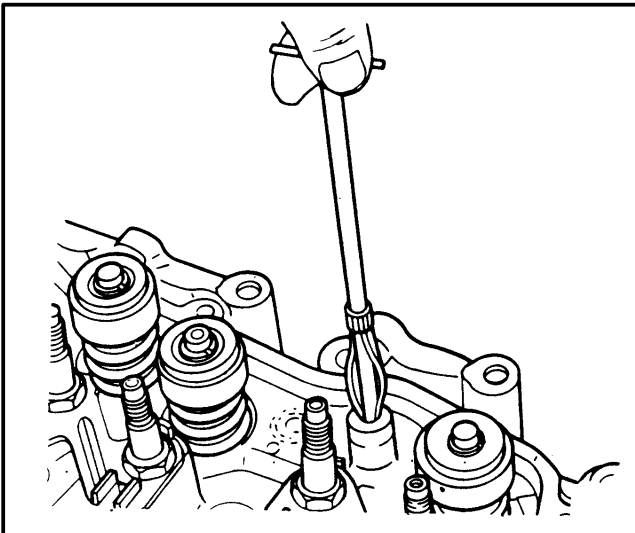

FIGURE 4. TOOL FOR CLEANING THE VALVE GUIDES
2. Clean the valve guides. Use a tool as shown in the example in FIGURE 4.